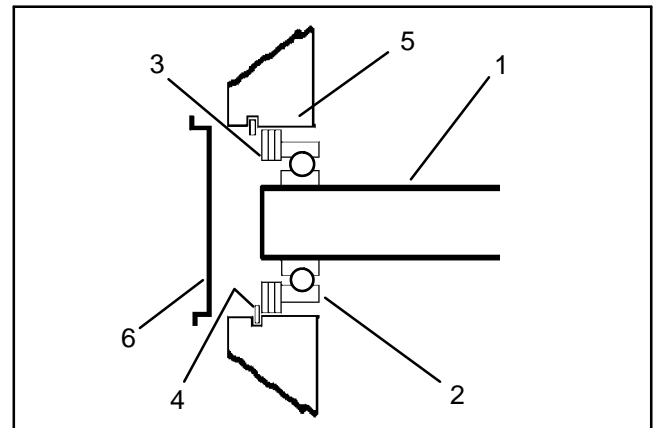

Figure 93
17. Install retaining ring into the groove of the center plate (Fig. 93 and 94).